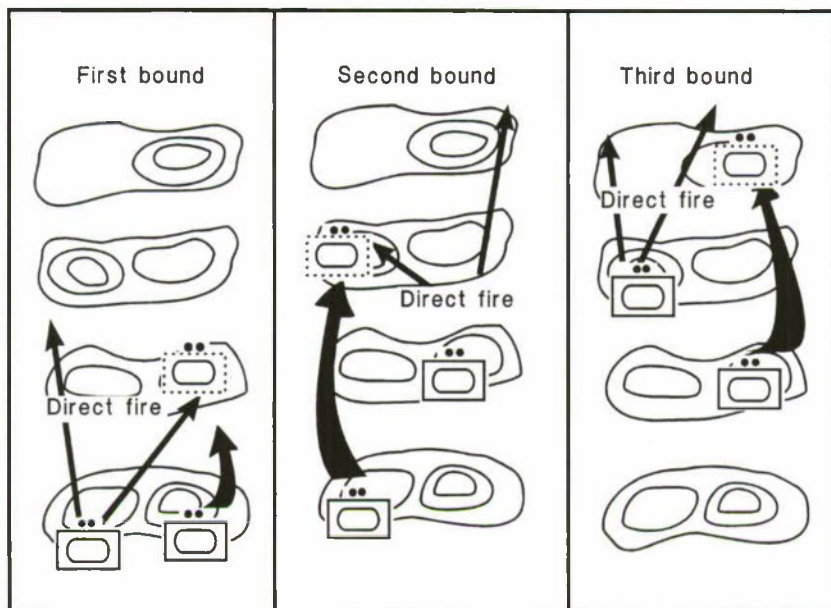

Figure 3-1. Movement by alternate bounds.
- **Alternate bounds.** Covered by the rear element, the lead element moves forward, halts, and assumes overwatch positions. The rear element advances past the lead element and takes up overwatch positions. The initial lead element then advances past the initial rear element and takes up overwatch positions. Only one element moves at a time. This method is usually more rapid than successive bounds. (Refer to Figure 3-1, page 3-12.)